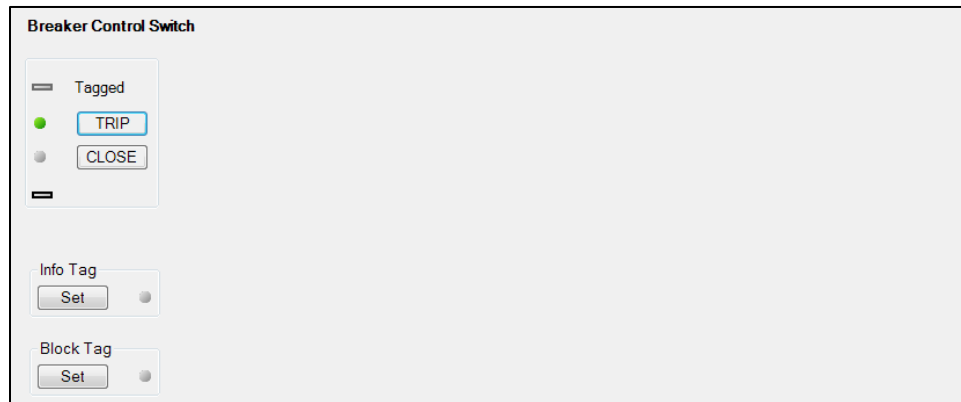

Figure 34-2. Breaker Control Switch Control Screen
1. Use the Metering Explorer to open the Control/Breaker Control Switch tree branch (Figure 34-2).